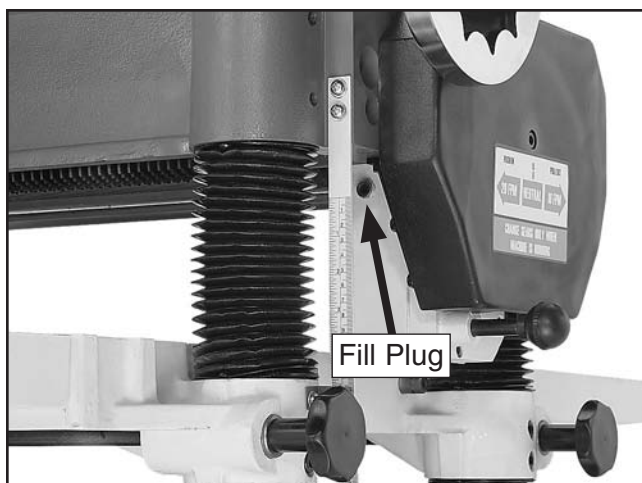

Figure 12. Gearbox fill plug.
11. Remove the gearbox fill plug (see **Figure 12**).